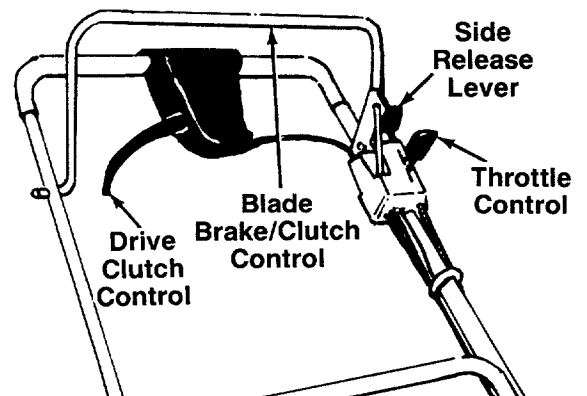

FIGURE 16.
The throttle is located on the left side of handle. It controls engine speed. See figure 16.
Squeezing the drive clutch control engages the drive mechanism to the rear wheels. Releasing the clutch control stops the rear wheels from driving. Release the drive clutch control to slow down when negotiating an obstacle, making a turn or stopping. See figure 16.
To engage the blade, pull the side release lever away from the unit. See figure 16. Pull the blade brake/clutch control handle against the upper handle. Release side lever.
2. To engage the blade, pull the side release lever away from the unit. Pull the blade brake/clutch control handle down against the upper handle. Release the side lever. See figure 16.